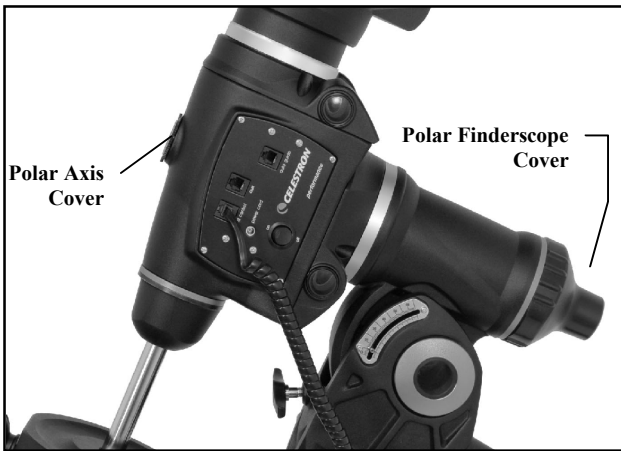

Figure 5-4
2. Remove the polar finderscope cover and the polar axis cover from both sides of the mount. The polar finderscope cover unthreads from the rear of the mount and the polar axis cover simply press fits into the front of the mount. See figure 5-4
sky, it may be difficult to locate from urban areas. If this is the case, use the two end stars in the bowl of the Big Dipper (the pointer stars). Draw an imaginary line through them toward the Little Dipper. They point to Polaris (see Figure 5-5). The position of the Big Dipper changes during the year and throughout the course of the night (see Figure 5-4). When the Big Dipper is low in the sky (i.e., near the horizon), it may be difficult to locate. During these times, look for Cassiopeia (see Figure 5-5). Observers in the southern hemisphere are not as fortunate as those in the northern hemisphere. The stars around the south celestial pole are not nearly as bright as those around the north. The closest star that is relatively bright is Sigma Octantis. This star is just within naked eye limit (magnitude 5.5) and lies about 59 arc minutes from the pole.